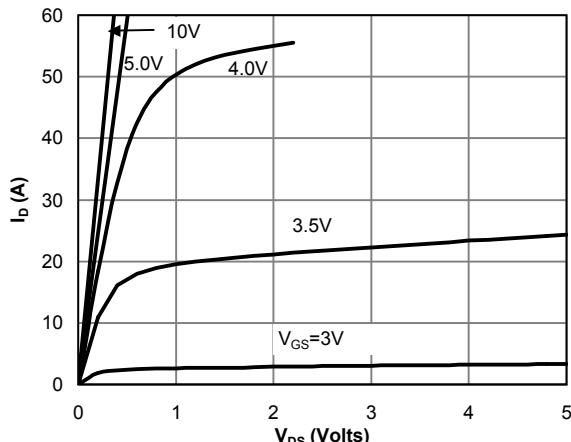

Fig 1: On-Region Characteristics
E. The static characteristics in Figures 1 to 6 are obtained using <300  $\mu\text{s}$  pulses, duty cycle 0.5% max.